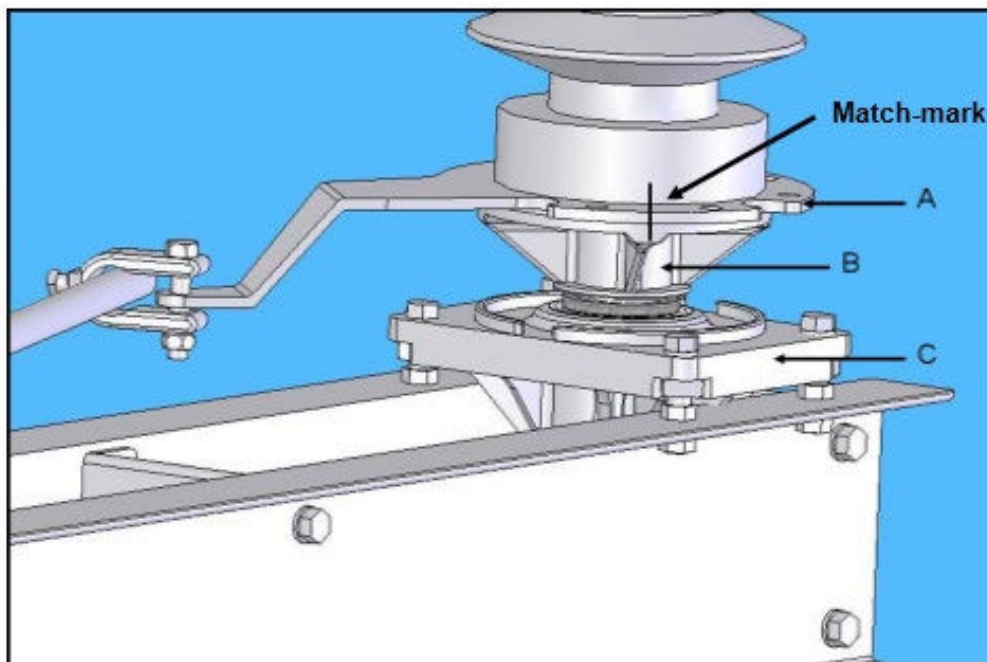

Figure 2: Match-Marked Components (Heavy Duty bearing)
3. Before disassembling the live parts from the switch base you must match mark each of the parts indicated to ensure correct re-assembly. Match-mark A to B and B to C as shown in **Figure 2.**